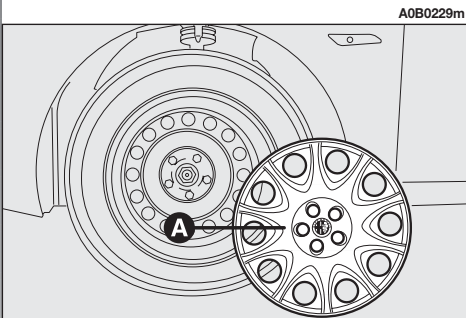

fig. 3
- Take out the tool container (B) and take it near the wheel to be changed.
- Take the spare wheel (C).
- Remove the wheel cap (A-fig. 3) (for versions with steel rims only).